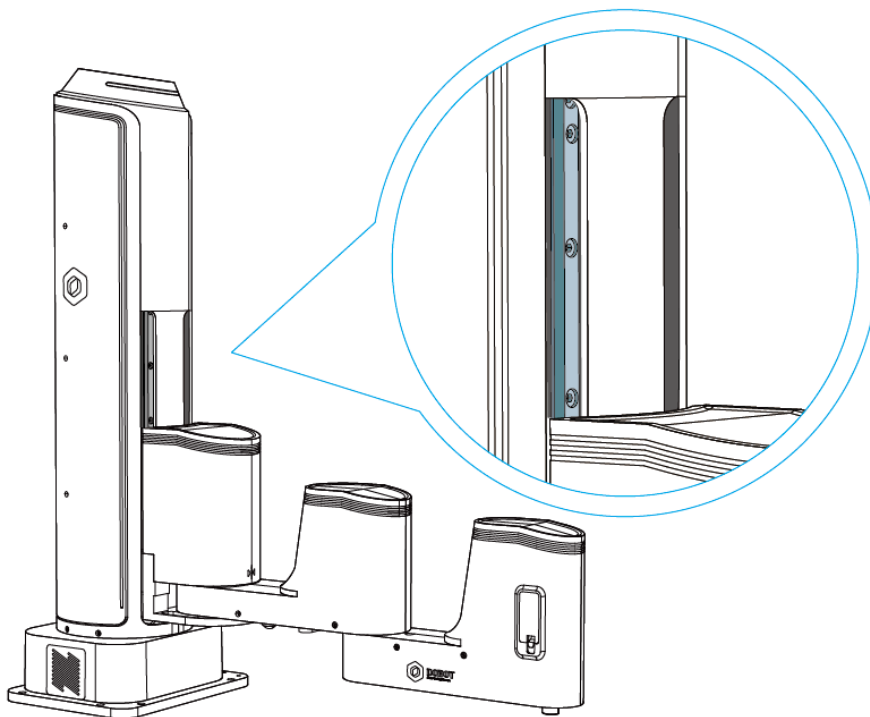

Figure 7.2 Guide rail of Z-axis
Step 2 Stretch the syringe with a needle into the guide rail from the gap on the top of the shell of Z-axis, as shown in Figure 7.2. Inject two or three drops of grease on each side of guide rail respectively. The grease of which the kinematic viscosity is 30cst to 150cst is recommended, such as engine oil.